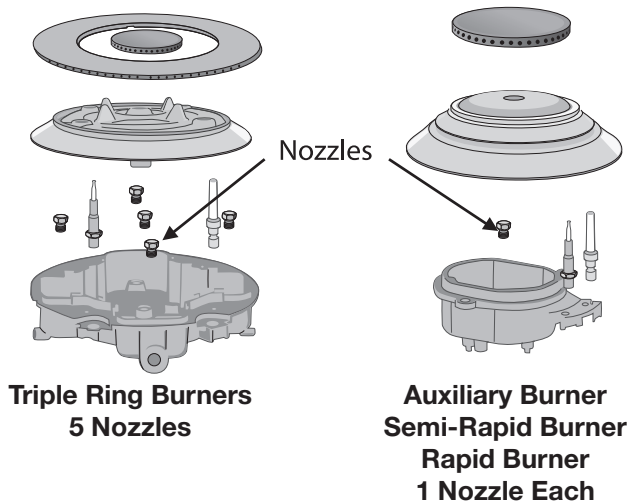

Figure 17
**8** Install the proper nozzles in the exact locations as noted in the illustrations and the table below. (See Figures 17 and 18)